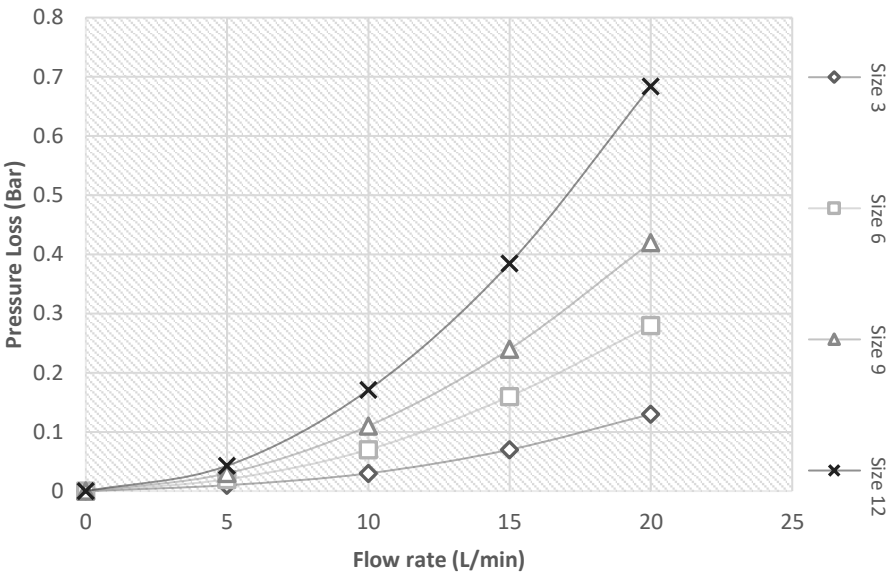
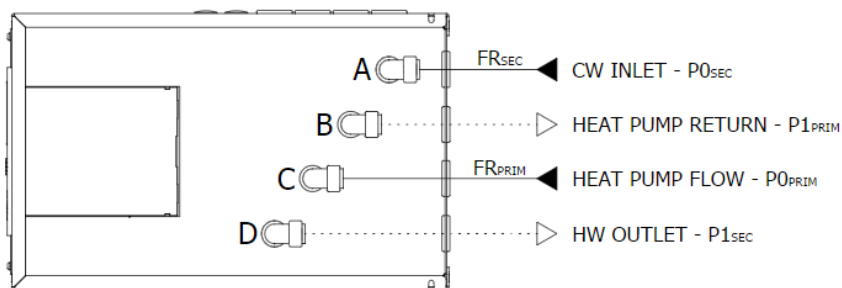

Figure 6.1: *UniQ HW +iLTHP* Heat Battery Secondary circuit pressure loss characteristics graph
Figure 6.3: Pressure loss at inlet & outlet of the Heat Battery
| Pressure loss characteristics Kv Values                              |  | Figure 6.1 & 6.2 (Section 2.6) |               |               |               |          |
The primary circuit ports C & B of the heat battery are connected to the heat pump flow and return as shown schematically in (Figure 6.3). The primary circuit design flow rate will depend upon the thermal rating of the heat pump and the design temperature difference. For a typical system, the primary flow rates are given in (Table 9),
The secondary ports A & D of the heat battery are connected to dwelling hot water circuit as shown schematically in (Figure 6.3). The pressure loss values can be read in (Figure 6.1).
**Note:** The mains cold water inlet connects to port A; Hot water outlet connects to port D. Meanwhile the LTHP flow pipe connects to Port C and the LTHP return pipe connects to Port B (Figure 6.3).